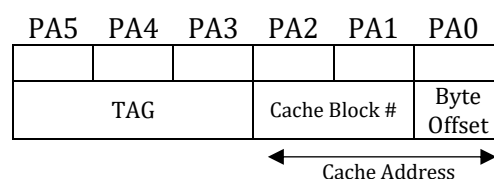
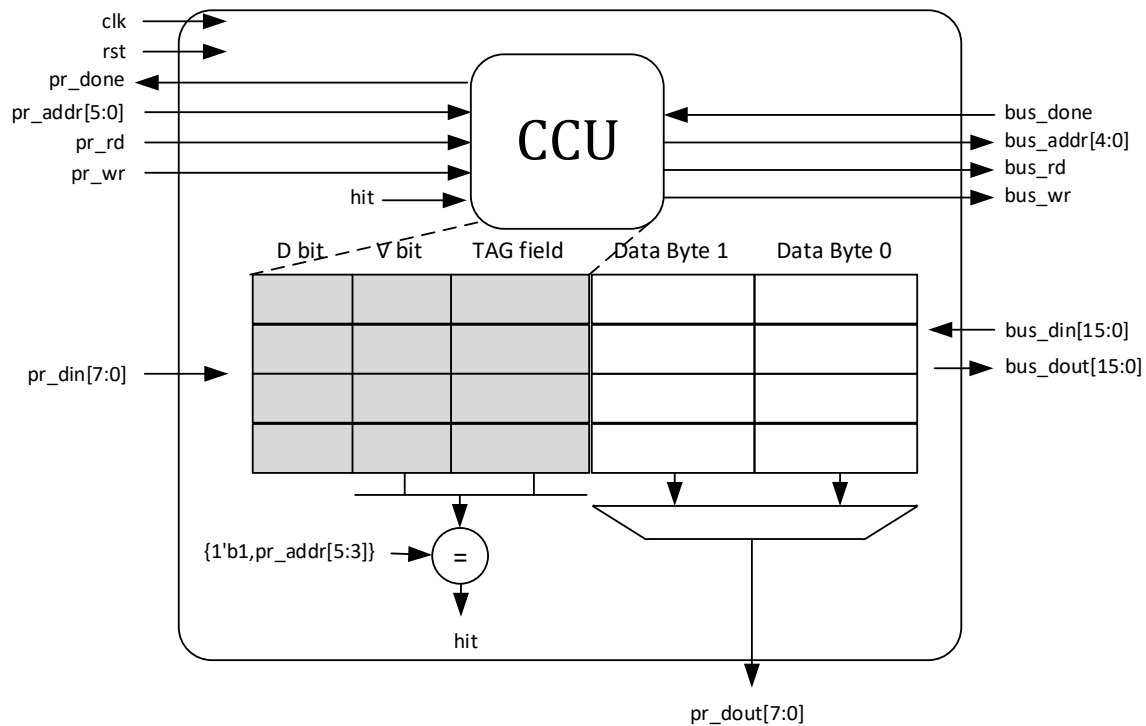
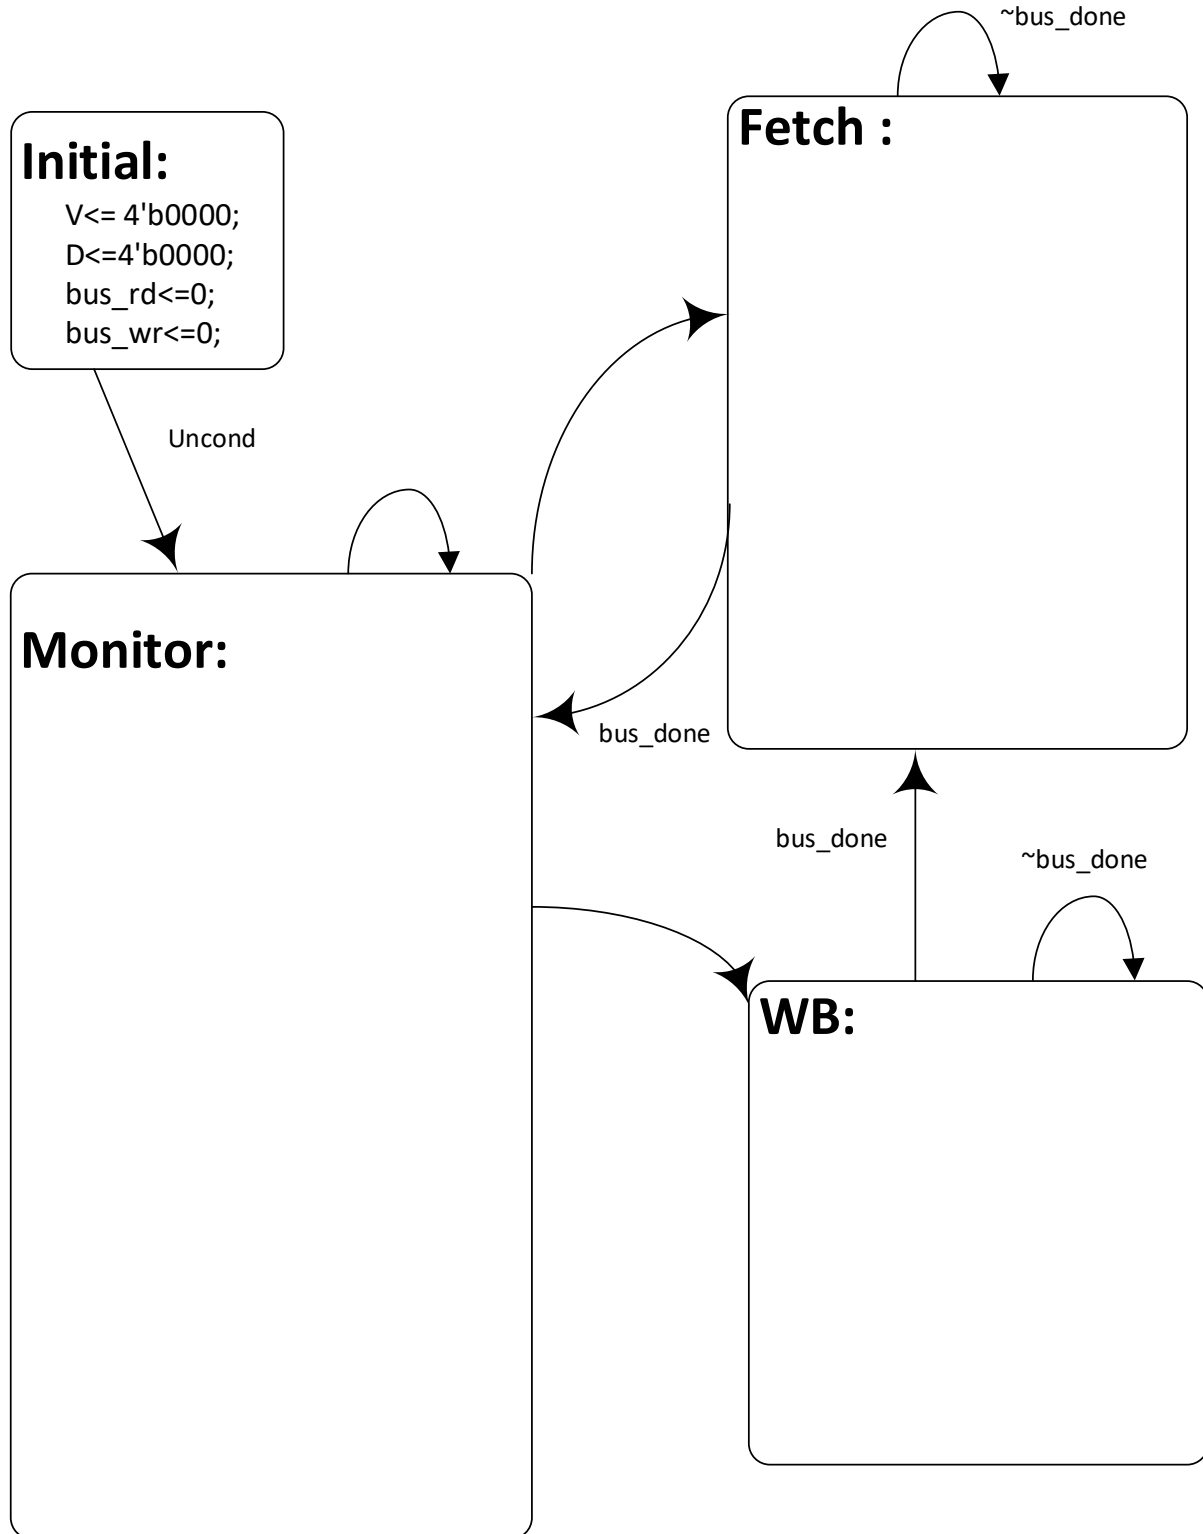

Fig. 1: Physical and Cache Address Format
Fig. 2: Direct-mapped Cache Organization
Fig. 3: CCU State Diagram
In this part, we will emulate the behavior of the single processor memory system. The address space of the main memory for a single core byte-addressable processor is assumed to be 64 bytes. The internal data bus of the processor is 8 bits wide. The cache block size is 2-bytes (16-bits = a “word”) and the processor is enhanced with a direct-mapped cache with 4 blocks (i.e. 8 bytes). As a result, the physical and cache addresses will follow the format as shown in the Fig. 1. To facilitate single access block transfers to and from memory, the main memory is 16-bits wide and always performs a read/write of that data size. Thus we only need the upper 5 bits of the processor address bus to address the 32 words (64 bytes). Cache organization has been demonstrated in Fig. 2.
To check whether the block residing in the cache is the same as the one requested by the processor, the cache is indexed with pr_addr[2:1] (i.e. the 'cblk' field) and then the TAG of the cache block is compared with pr_addr[5:3]. V and D are valid and dirty bits, respectively. C.C.U. stands for Cache Control Unit and oversees coordination between processor and the bus (i.e. main memory). If a block is missed in the cache, the CCU will request the block from the bus and waits until memory provides the data to the cache. When the memory finishes the transaction requested by the core, it sets bus_done signal high for a clock so the cache knows that the transaction is done. The cache that we implement here is a write-back cache; therefore, if a block is dirty in the cache and the processor wants to update it with another block, the dirty block needs to be written in the main memory first. Note: While the valid and TAG bits would generally be stored in a separate TAG RAM, we will just store them as a simple register array in the CCU (this is why those bits are shaded and lines drawn in Fig. 2 to indicate that TAG, V, and D are actually stored in the CCU).
1. Complete the state diagram for CCU as provided in the Fig. 3 using the signals demonstrated for CCU ports in the Fig. 2. **(10 pts)**
The description of the states in the Fig. 3 are as follows.